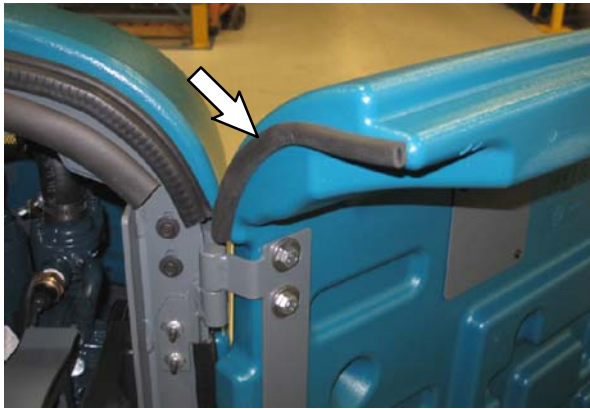

FIG. 18
19. Install the 200 mm (8 in) bulb seal (11) onto the upper inner edge of the side cover. Refer to Fig. 18.